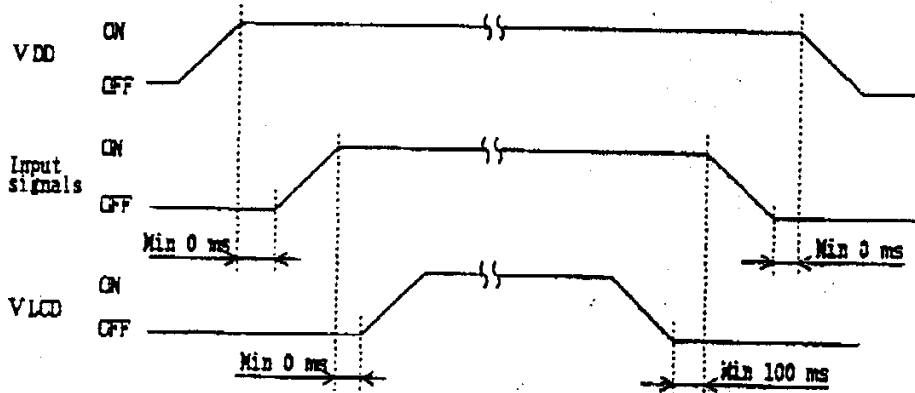
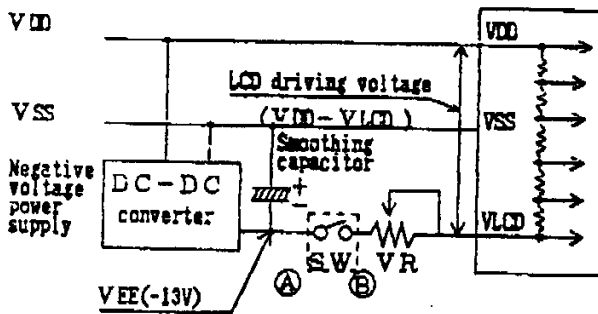
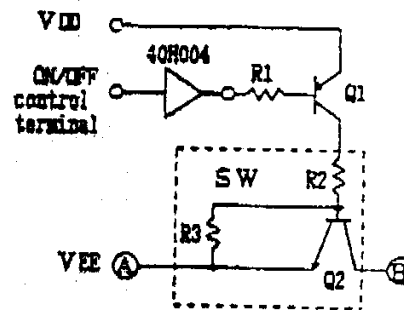

Fig. 1 Power On/Off Sequence
Fig. 2 Typical Power Supply Connection
Fig. 3 Typical SW Circuit
- (1) If the LCD panel is driven on DC, the electrochemical reaction within it causes a rapid reduction in display performance. The duty 50%±1% of the FR signal must always be observed.
- (2) Follow the power on/off sequence shown in Fig. 1 to prevent a latch-up or DC operation of the LCD module.
- (3) No LCD module must exceed the absolute maximum ratings. If a module is operated with any value exceeding absolute maximum ratings, its performance will deteriorate and may no longer restore to normal. In designing a system using LCD modules, utmost care should be taken of ambient temperature, input voltage signal fluctuations, supply voltage fluctuations, etc.
- [Note 1] The VLCD on/off operation shown in Fig. 1 indicates the swiching operation of Fig. 2.
- [Note 2] Turning off the SW (Fig. 2) will open the VLCD terminal. Therefore, the LCD driveng voltage (VDD-VLCD) will become zero 100ms(Max.) later.
- [Note 3] A typical circuit for the SW portion of Fig. 2 is given in Fig. 3 for reference.